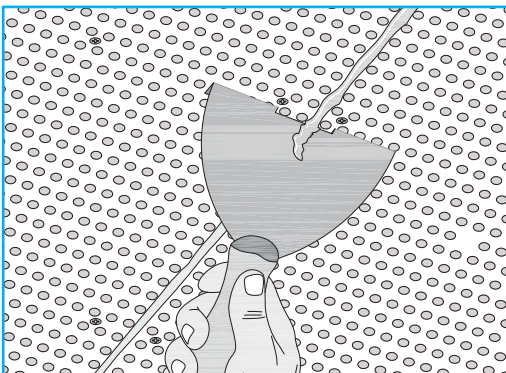

FIGURE 10 'Chipping' Off Excess Filler
- Scrape off excess Uniflott after hardening has begun (45 minutes in normal conditions). *[Figure 10]*